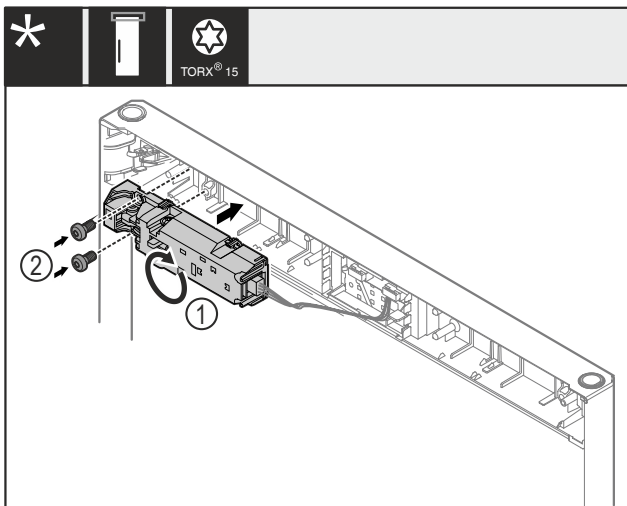

Fig. 23
- ▶ Turn the remote lock Fig. 23 (1) by 180° and attach on the opposite side.
- ▶ Fasten the remote lock Fig. 23 (1) with screws Fig. 23 (2).